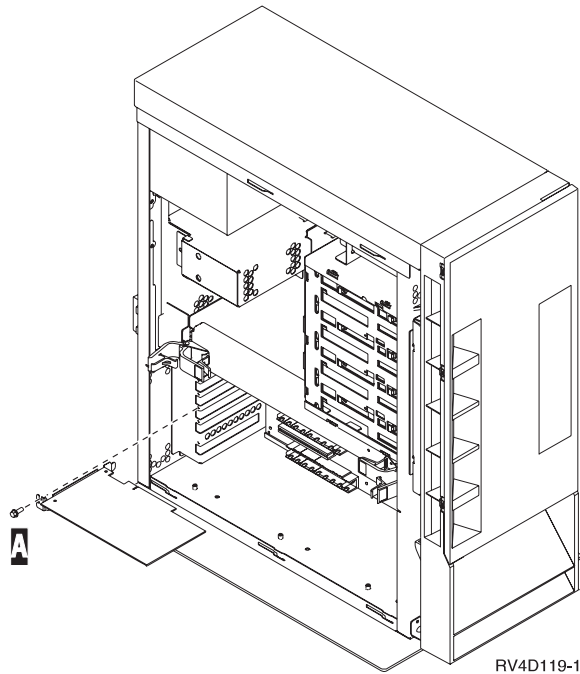

Figure 6. Remove or Install Adapter Card
- b. Remove the screw **A** from the card tab, (Figure 6 on page 18).
a. Align the adapter card with the card slot (Figure 6 on page 18).
- c. Install the screw **A** that holds the adapter card in place, (Figure 6 on page 18).